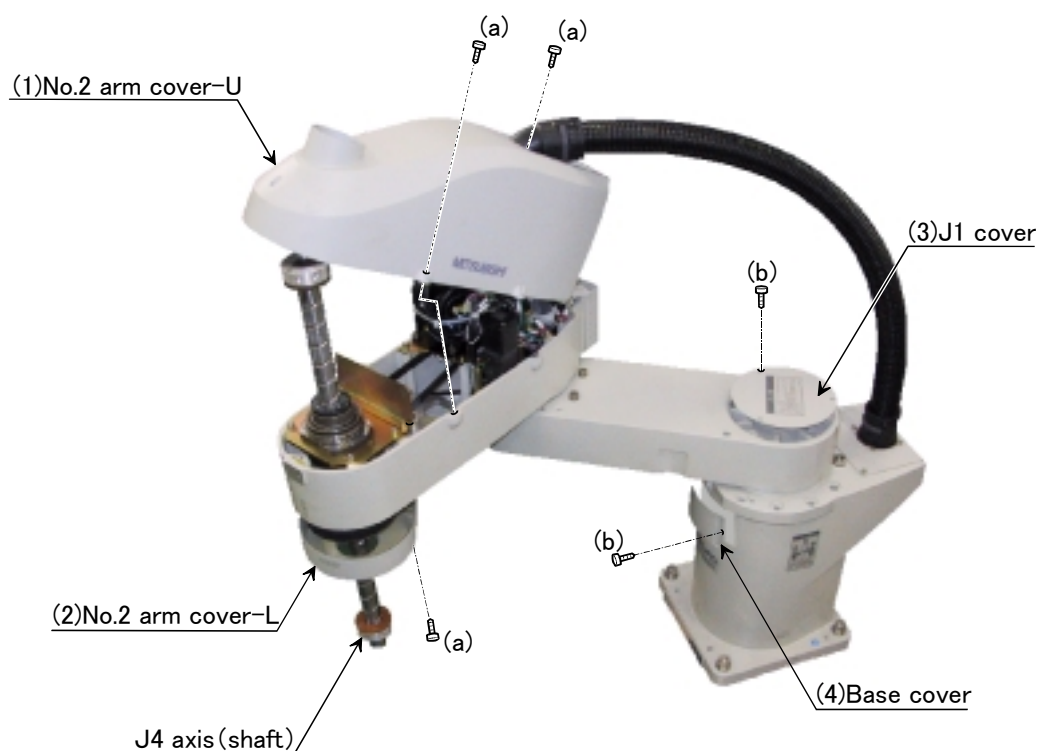

Fig.5-3 : Installing/removing the cover
- (1) Referring to Fig. 5-3, remove the covers.
- (2) Table 5-3 lists the names of the covers and installation screws.
- (3) Lower the J4 axis (shaft) using jog operations before removing the No.2 arm cover-U.
- (4) When reattaching the covers after a maintenance inspection, proceed in the reverse order of their removal.
- 2) Refer to Fig. 5-3, and remove the No.2 arm cover-U.
- 4) Check the belt tension as shown in “(4) Timing belt tension” on page 51. Lightly press the center of the belt, and confirm that the value of belt slack is in following.
- 2) Refer to Fig. 5-3, and remove the No.2 arm cover-U and No.2 arm cover-L.